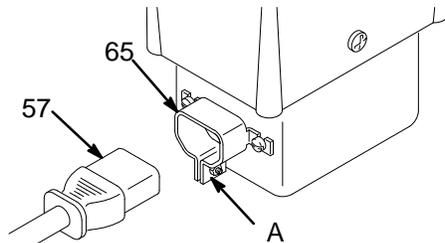

Fig. 1
1. Plug the power cord (57) into the inlet receptacle located below the motor. Tighten the screw (A) of the cord clamp (65) securely. See Fig. 1.